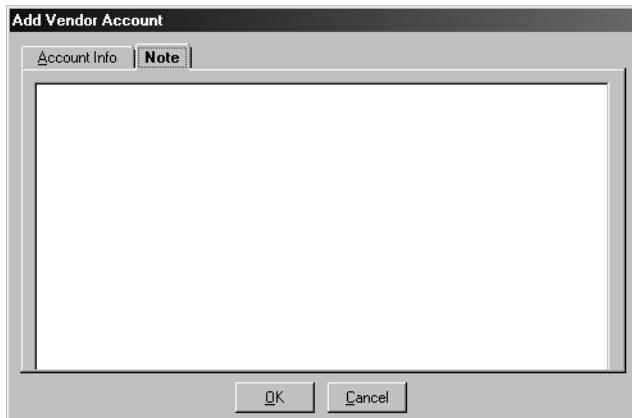

Figure 4-12. Add Vendor Account dialog box - Note tab
10. Click the **Note** tab (Figure 4-12) and enter the information in the free-text box.
11. Click the **OK** button to save the account and close the **Add Vendor Account** dialog box (see Figure 4-12). Click the **Cancel** button to close the dialog box without saving.